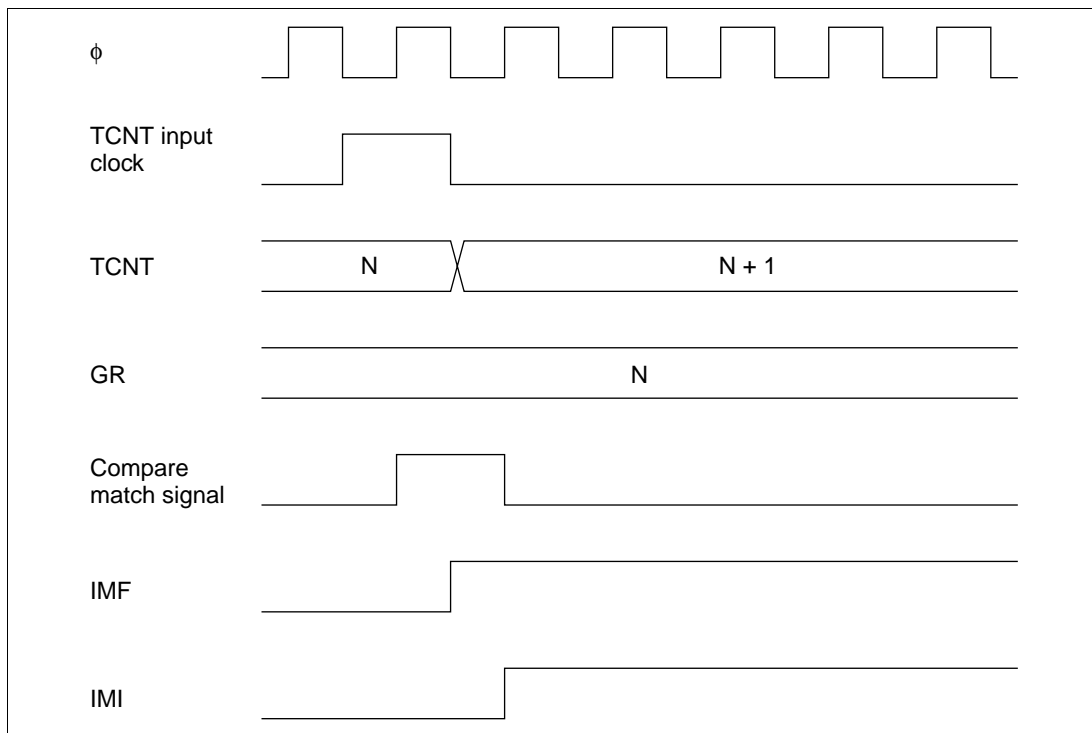

Figure 9.33 Timing of Setting of IMFA and IMFB by Compare Match
Timing of Setting of IMFA and IMFB at Compare Match: IMFA and IMFB are set to 1 by a compare match signal generated when TCNT matches a general register (GR). The compare match signal is generated in the last state in which the values match (when TCNT is updated from the matching count to the next count). Therefore, when TCNT matches a general register, the compare match signal is not generated until the next TCNT clock input. Figure 9.33 shows the timing of the setting of IMFA and IMFB.